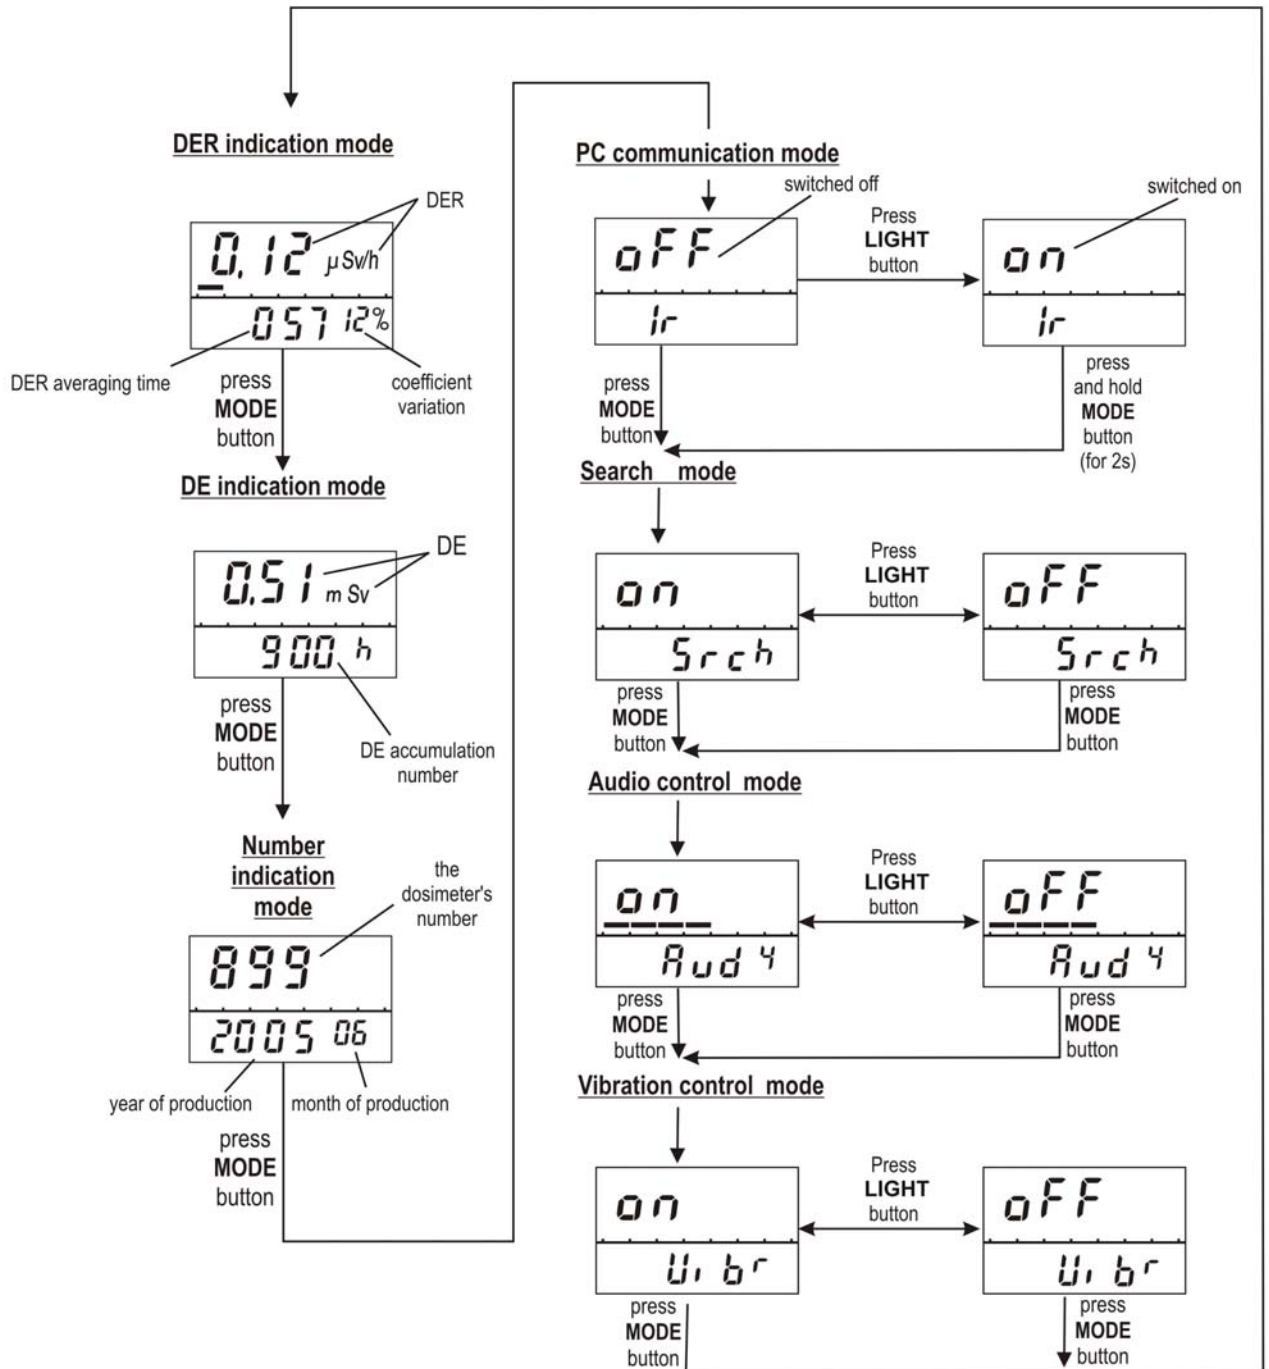

Figure 2.1 - Choice of operating mode (indication) of the instrument
In the DER mode (figure 2.1) the following values appear on the LCD:
In the DE mode (figure 2.1) the following values are indicated on the LCD:
- the instrument's number on a display (Figure 2.1, Item 2);
- year (Figure 2.1, Item 4) and month (Figure 2.1, Item 3) of production.
How to turn on the search mode shown in Figure 2.1
In the audible alarm indication mode (Fig. 2.1) the instrument provides the following functions:
In the vibration alarm indication mode (Fig. 2.1) the instrument provides the following functions: